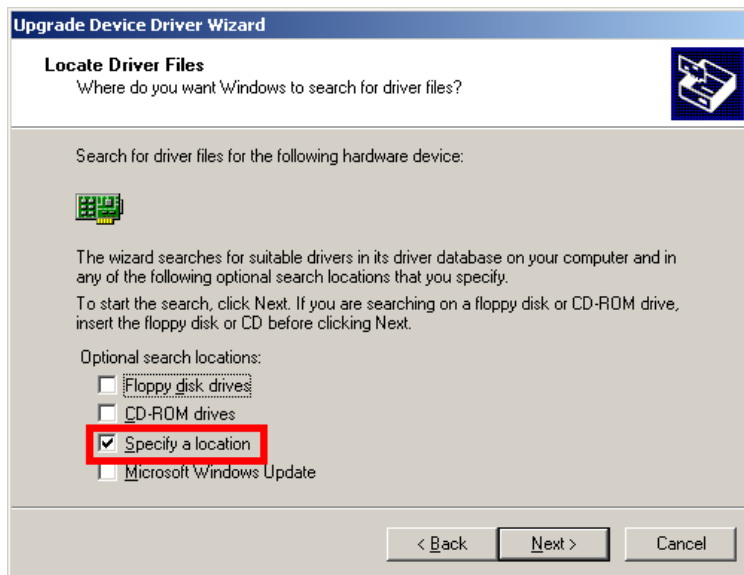

Figure 7-24: Locate Driver Files
Step 8: Select “**Specify a Location**” in the **Locate Driver Files** window (Figure 7-24).